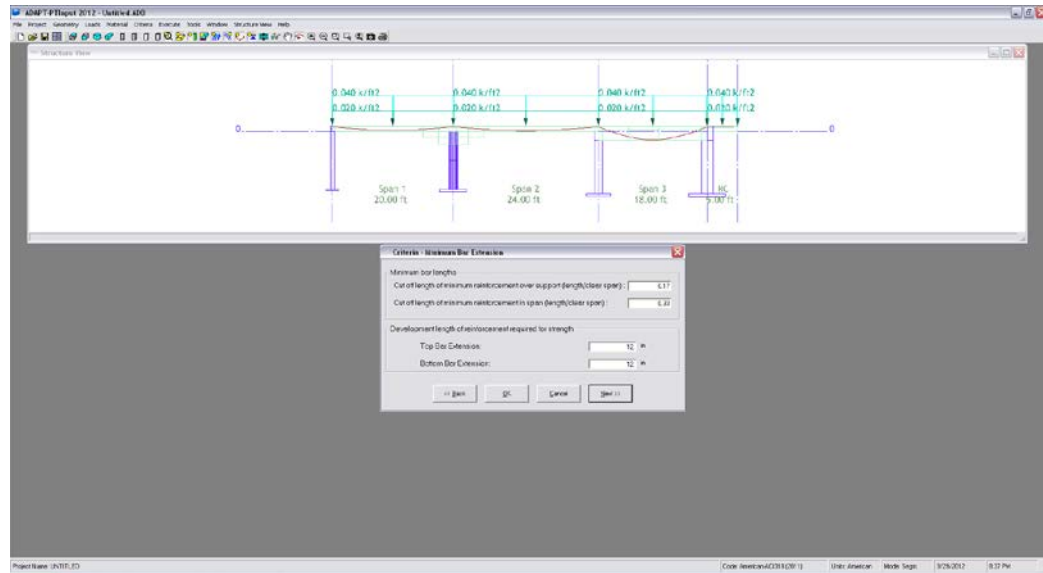

FIGURE 5.3-27
5.3.6.1 Specify Minimum Bar Length and Bar Extension Of Mild Steel Reinforcement (Fig. 5.3-27)